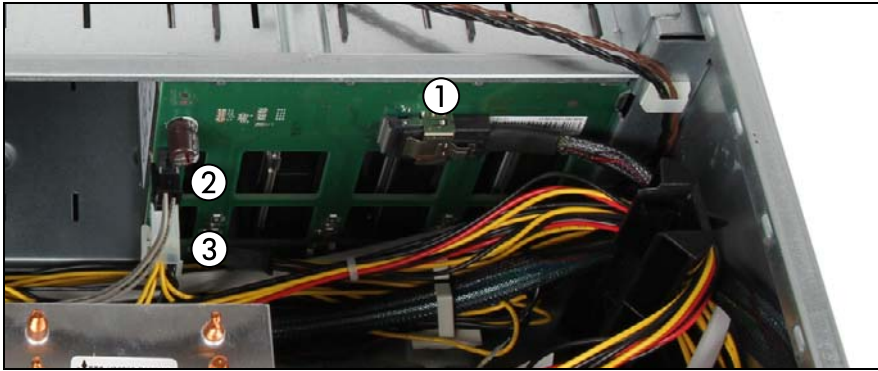

Figure 98: Disconnecting cables
- ▶ Connect the cables to the SAS backplane (see figure 98).